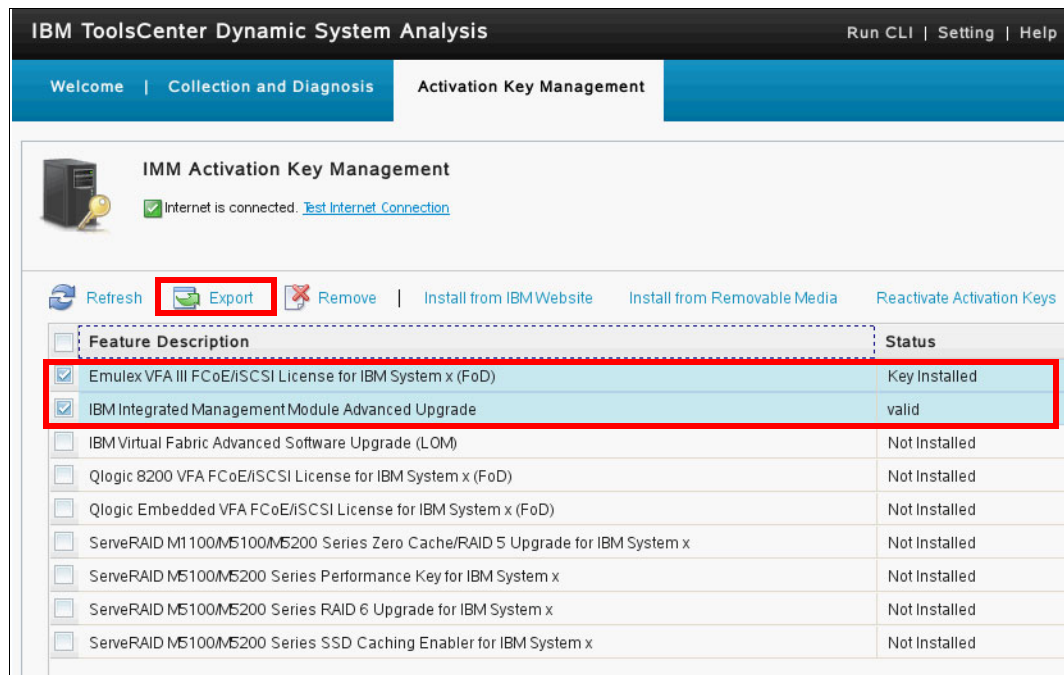

Figure 3-24 Activation key management selection example for backup
- The Activation Key Management window opens. Select the items from the list that you want to back up and click **Export**, as shown in Figure 3-24.